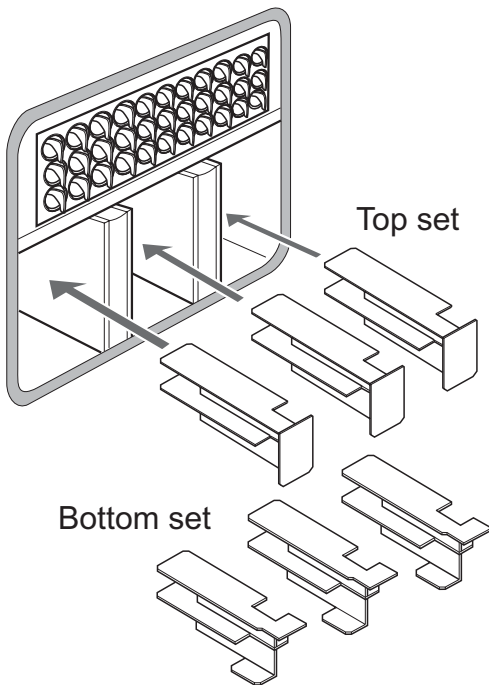

Fig. 28 - 26/36 and 36/46 baffles
- 7 Pull out the spiral turbulators from the heat exchanger tubes. See Fig. 28.